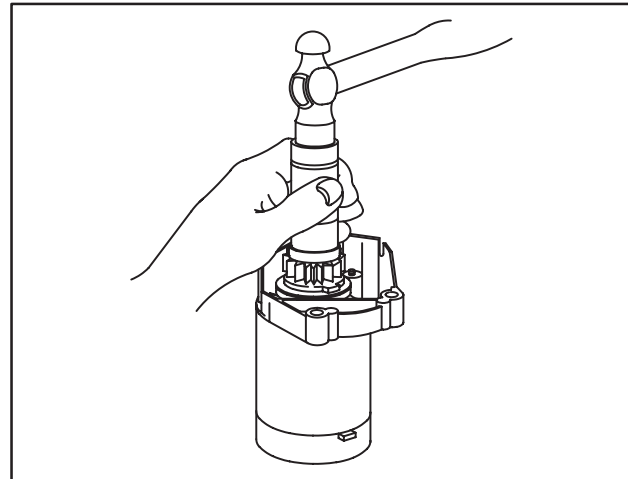

Fig. 23 – Installing Plastic Cap
5. To install plastic cap, use a socket approximately the same diameter as the plastic cap, for a driver as shown in Fig. 23. Press cap in position. Cap should lock in position when properly assembled.